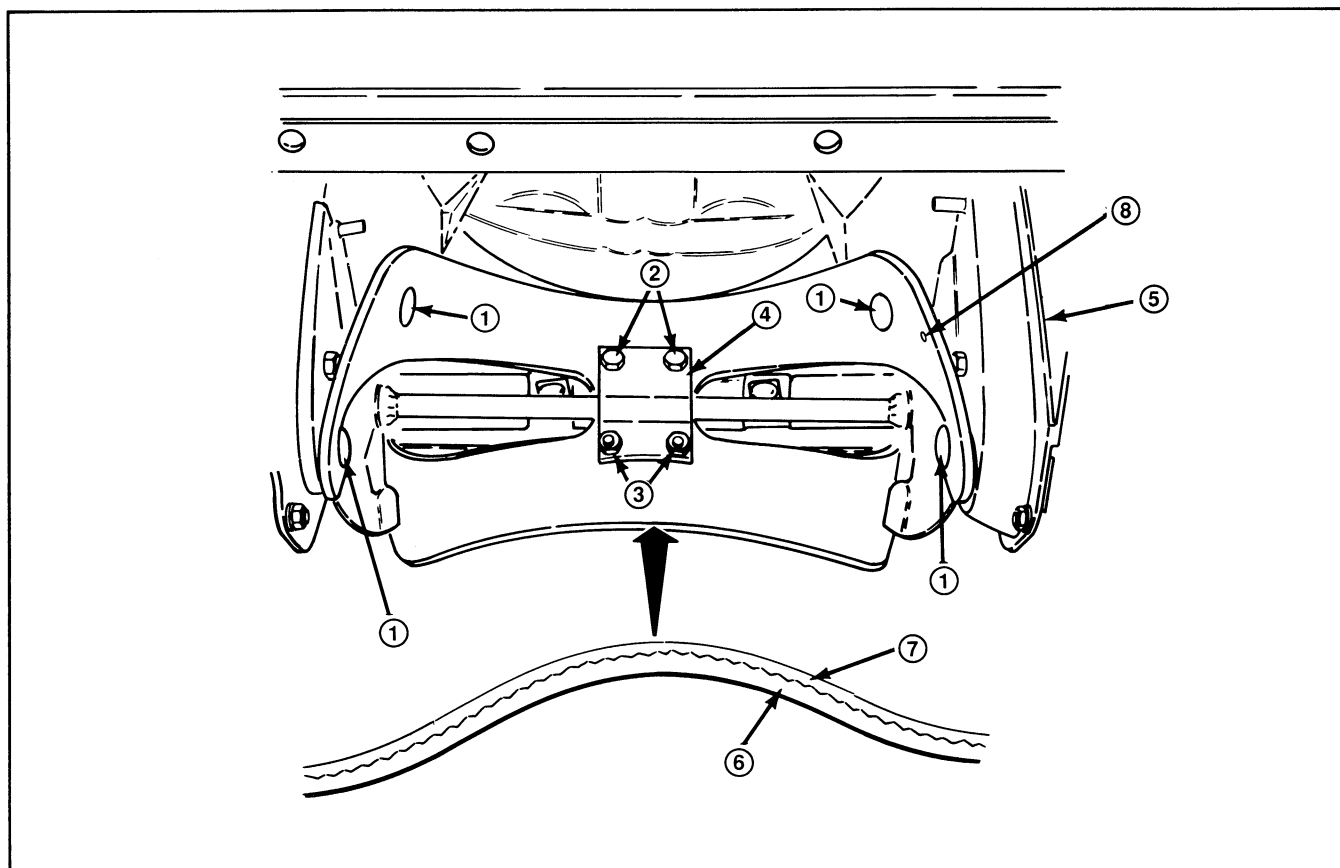

Figure 8
2. REMOVING BLADE (Fig. 8) – Remove (4) torx screws (Bit No. T27), (2) capscrews, and (6) locknuts securing blade to rotor shaft assembly.
3. Slide the blade out from between the blade support (Fig. 8).
4. INSTALLING NEW BLADE—The rotor blades are made of laminated rubber. Examine the edge of a blade to see the difference in layer thicknesses (Fig. 8).
Both blades must be installed with the thick layer on the **inside** of the curve, and the wear indicator holes must be on the drive belt cover side (Fig. 8). If one of the blades is installed with the thick layer on the outside of the curve and the other blade installed with the thick layer on the inside of the curve, the blades will be unbalanced, causing the snowthrower to “hop” or “bounce.”